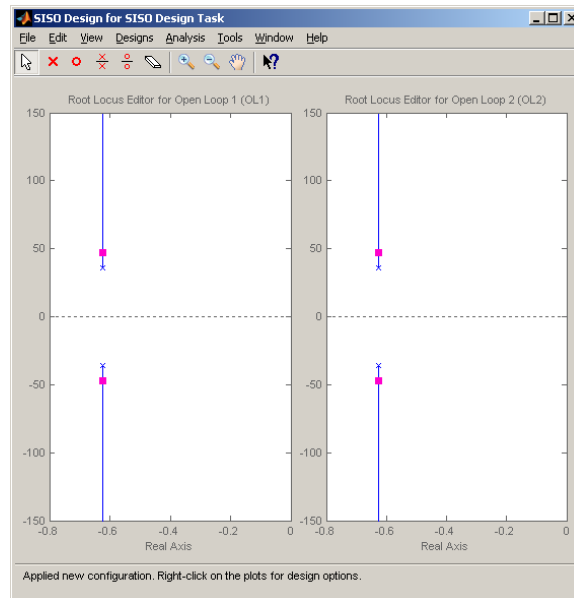

Figure 5: SISO Design for SISO Design Task
9. After this plant is imported into sisotool, there will be a design window and two identical proportional controllers shown in Figure 5.